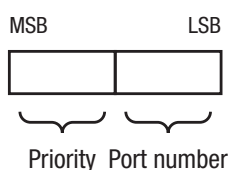

Figure 45: Port Identifier
- ▶ If multiple paths with the same root path costs lead from one bridge to the same bridge, the bridge further away from the root uses the port identifier of the other bridge as the last criterion (see figure 45). In the process, the bridge blocks the port that leads to the port with the numerically higher ID (a numerically higher ID is the logically worse one). If 2 ports have the same priority, the port with the higher port number has the numerically higher ID, which is logically the worse one.